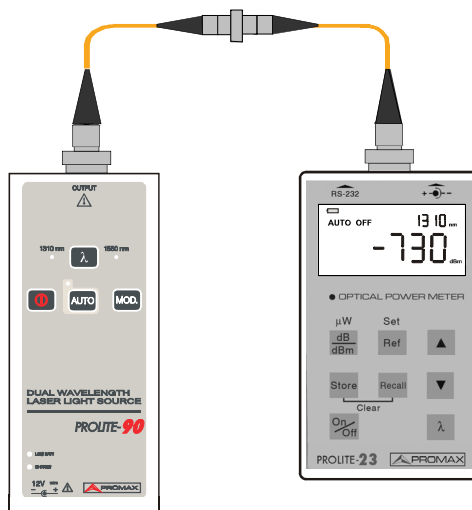

Figure 12.- Connector insertion loss testing
4. **Measure Connector Insertion Loss:** Place between both instruments the connector under test to measure so as shows figure 12. The power meter will read the lost ones of insertion of the connector.